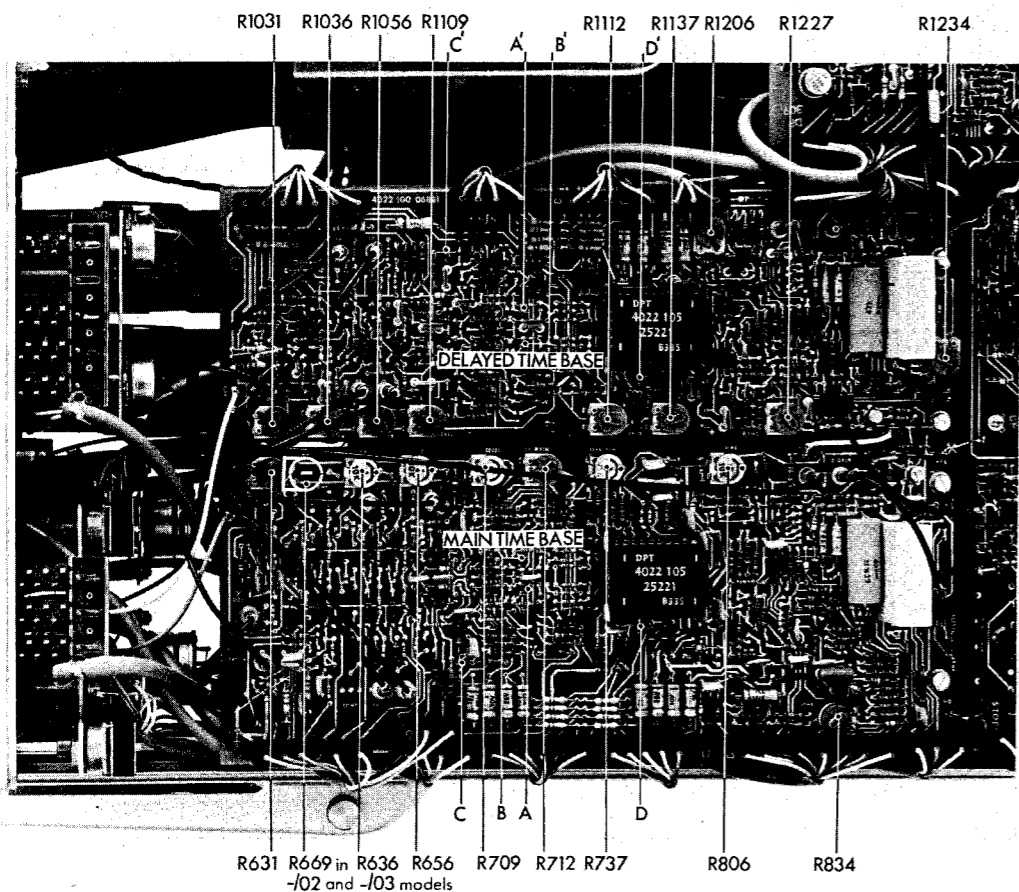

Fig. 3.22. Time-base boards with adjusting references
- Check that the trace width is 8 DIV \pm 1,5 DIV; (mains voltage 220 V) if necessary, readjust potentiometer R669 on the main-time base circuit board, Fig. 3.22. (in instruments of the -/01 model, this potentiometer is located on the power supply circuit board, R1838, Fig. 3.25).
- The emitter of TS634 is connected to test point A and the emitter of TS642 to test point B (Fig. 3.22). The signal on these test points is voltage and can be measured with the aid of an oscilloscope.
- Test point C is connected to the base of transistor TS637 (Fig. 3.22). The signal on this point is also voltage.
- Test point D (Fig. 3.22) is connected to point 4 of IC601.